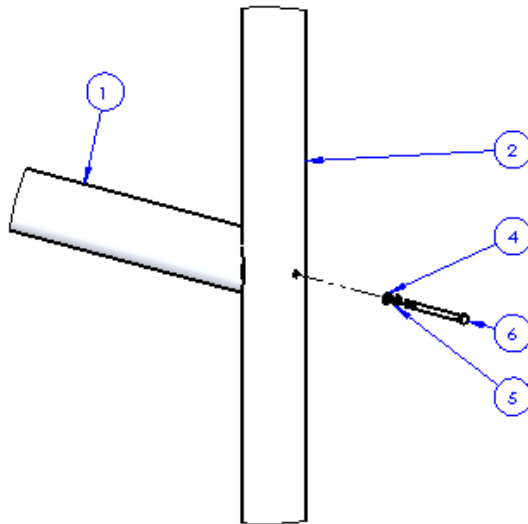

Figure 3
3. With 2 or more people, put Item #1 (Goal Crossbar) Between Uprights from step 1, aligning holes and using (1) of Item #6 (3/8-16 S.S. Hex Head Bolt x 5" long), Item #4 (3/8 S.S. Flat Washer), and Item #5 (3/8 S.S. Lock Washer) for each side. Hand-tighten, till you get both sides started, then tighten completely (Figure 3).